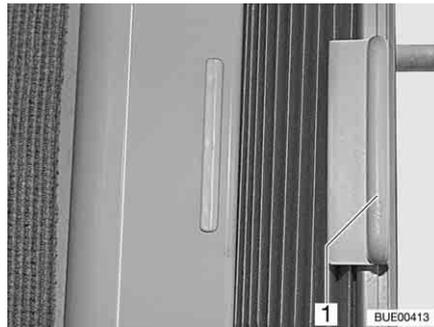

Fig. 35 Roman shade
- Grasp the handle (Fig. 35,1) of the Roman shade and slide to the left or the right.